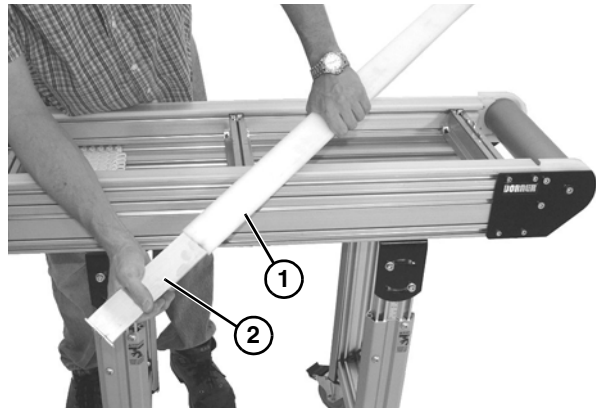

Figure 28
5. Remove the center wear strip (**Figure 28, item 1**) from the center frame channel (**Figure 28, item 2**).